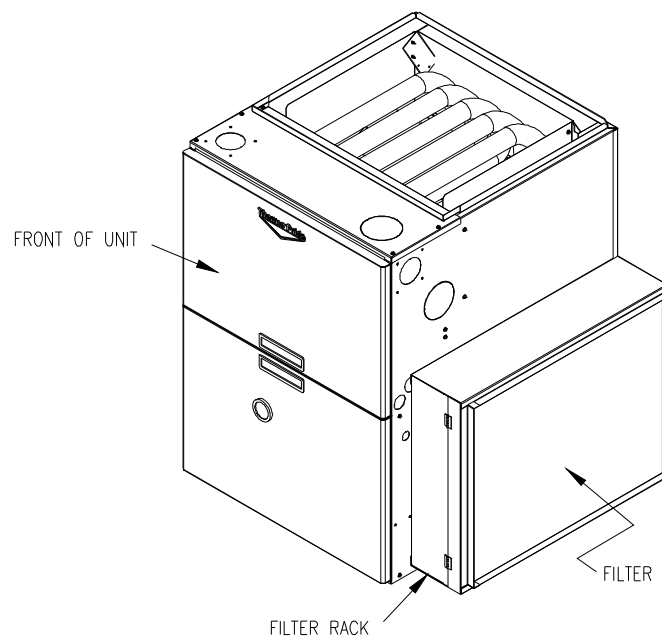

Figure 3 (Upflow example)
2. The filter rack or drop chute will be located between the return air plenum and the return air opening of the furnace (See Figure 3). Slide dirty filter out of the filter rack. Clean the filter by vacuuming, rinsing with tap water, hosing or dipping in an ordinary detergent solution. Replace the completely dry filter in the rack. The mesh side of the filter must be installed towards the furnace after cleaning.